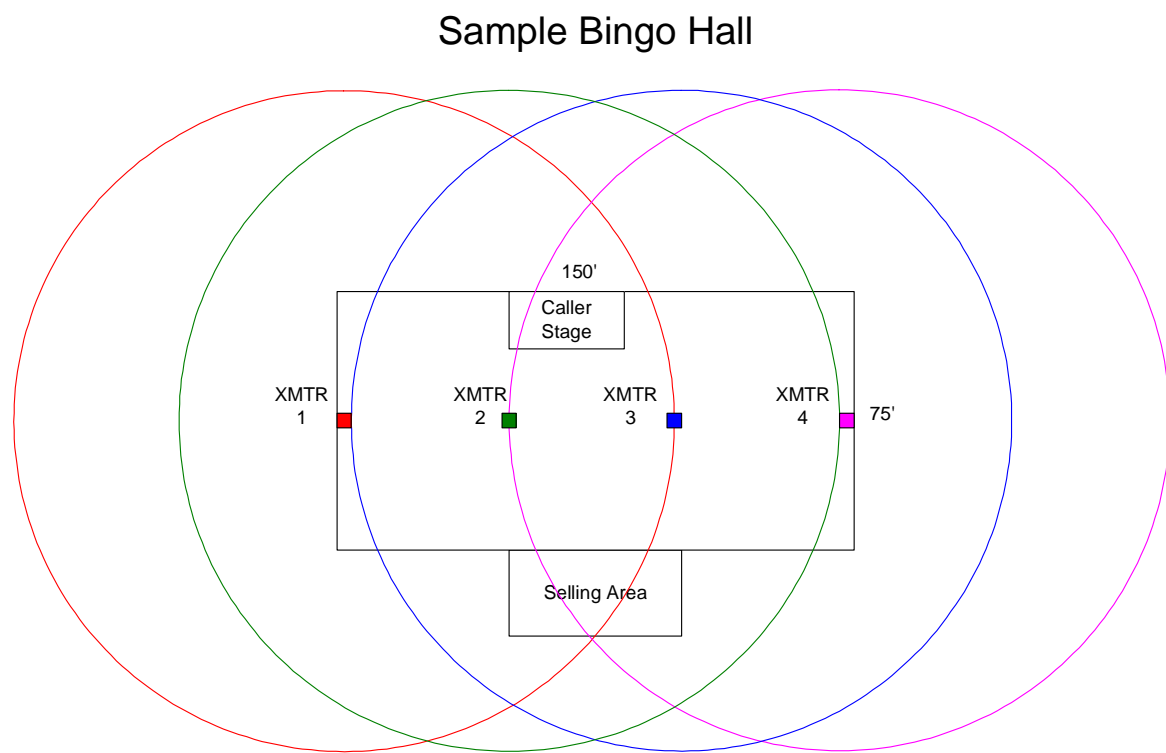

Figure 8. Sample Hall Diagram
Use the site survey form to begin the evaluation of RF in a bingo operation. Diagraming the hall is an important step to lay out the necessary testing areas. Figure 8 provides a sample hall on which to base your diagram. If the hall has more than one room, each room will need to be diagramed individually. Create an architectural diagram of the hall using the graph paper located in the site survey form.
- Using the site survey form to create a diagram, cut out four circles representing the 100' radius of the transmitters. Adhere to the rule that each location on the floor must be able to see at least two transmitters. The sample hall in Figure 8 displays the radiation patterns of each respective transmitter. (The scale of the drawing has been reduced for this document.)